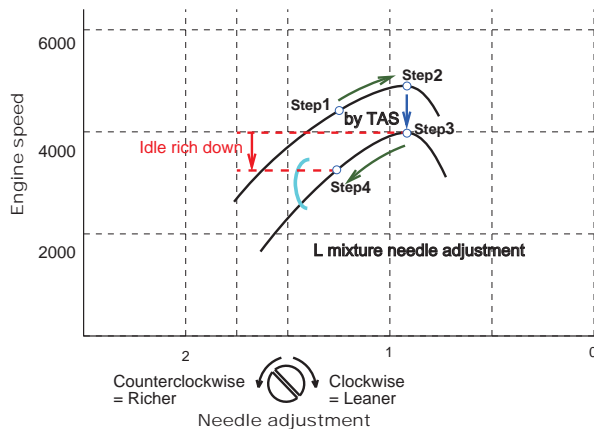

Fig.1: Idle setting
B. Idle setting Fig.1
Refer to column "Idle setting: Fig.1" on **SERVICE DATA Reference No. 90-ZCx-xx**.
Step 3: Set idle speed to the value listed in column "Idle setting: Fig.1 Steps 2 & 3" by turning throttle adjust screw(T). Engine speed should be stable within +/- 50 r/min after throttle adjust screw adjustment.
Step 4: Turn L mixture needle counterclockwise reducing engine idle speed to the value in column "Idle setting: Fig.1 Step 4".